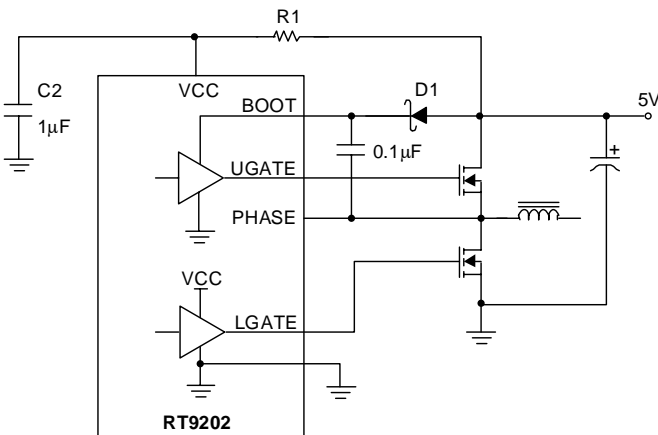

Fig.1 Single 5V power Supply Operation
In a single power supply system, the UGATE driver of RT9202 is powered by an external bootstrap circuit, as the Fig.1. The boot capacitor, C_{BOOT} , generates a floating reference at the PHASE pin. Typically a $0.1\mu F$ C_{BOOT} is enough for most of MOSFETs used with the RT9202. The voltage drop between BOOT and PHASE is refreshed to a voltage of $V_{CC} - \text{diode drop } (V_D)$ while the low side MOSFET turning on.
The over current protection (OCP) function of the RT9202 is triggered when the voltage across the $R_{DS(ON)}$ of upper side MOSFET that developed by drain current exceeds over-current tripping level. An external resistor (R_{OCSET}) programs the over-current tripping level of the PWM converter. As shown on Fig.1, the internal $40\mu A$ current sink (I_{OCSET}) develops a voltage across R_{OCSET} (V_{SET}) that is referenced to V_{IN} . The DRIVE signal enables the over-current comparator (OC). When the voltage across the upper MOSFET ($V_{DS(ON)}$) exceeds V_{SET} , the over-current